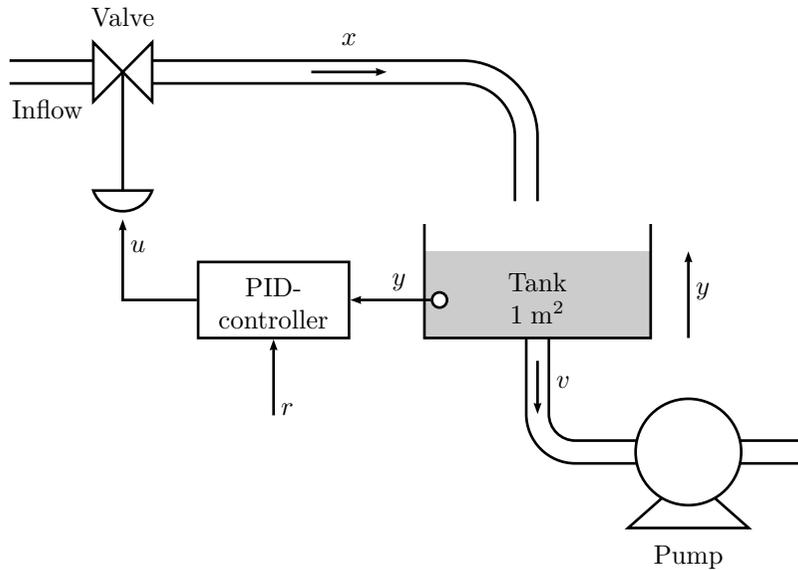

Figure 3.2a
3.2 Consider the system studied in Problem 3.1. The aim is now to control the tank level automatically, and therefore PID feedback control is introduced according to Figure 3.2a. This means that the valve input is determined according to the expression